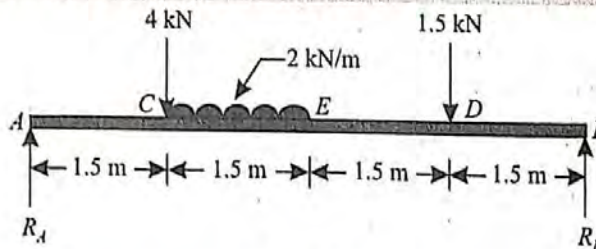

Fig. 9.8.
**Example 9.2.** A simply supported beam, AB of span 6 m is loaded as shown in Fig. 9.8.